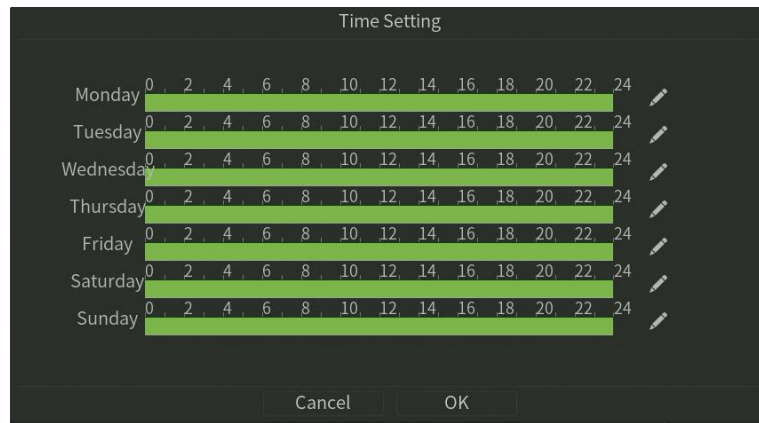

Figure 6.16 Time Setting
2. Click Arming button, Setup the Time Setting of the channel, as shown in figure 6.16.